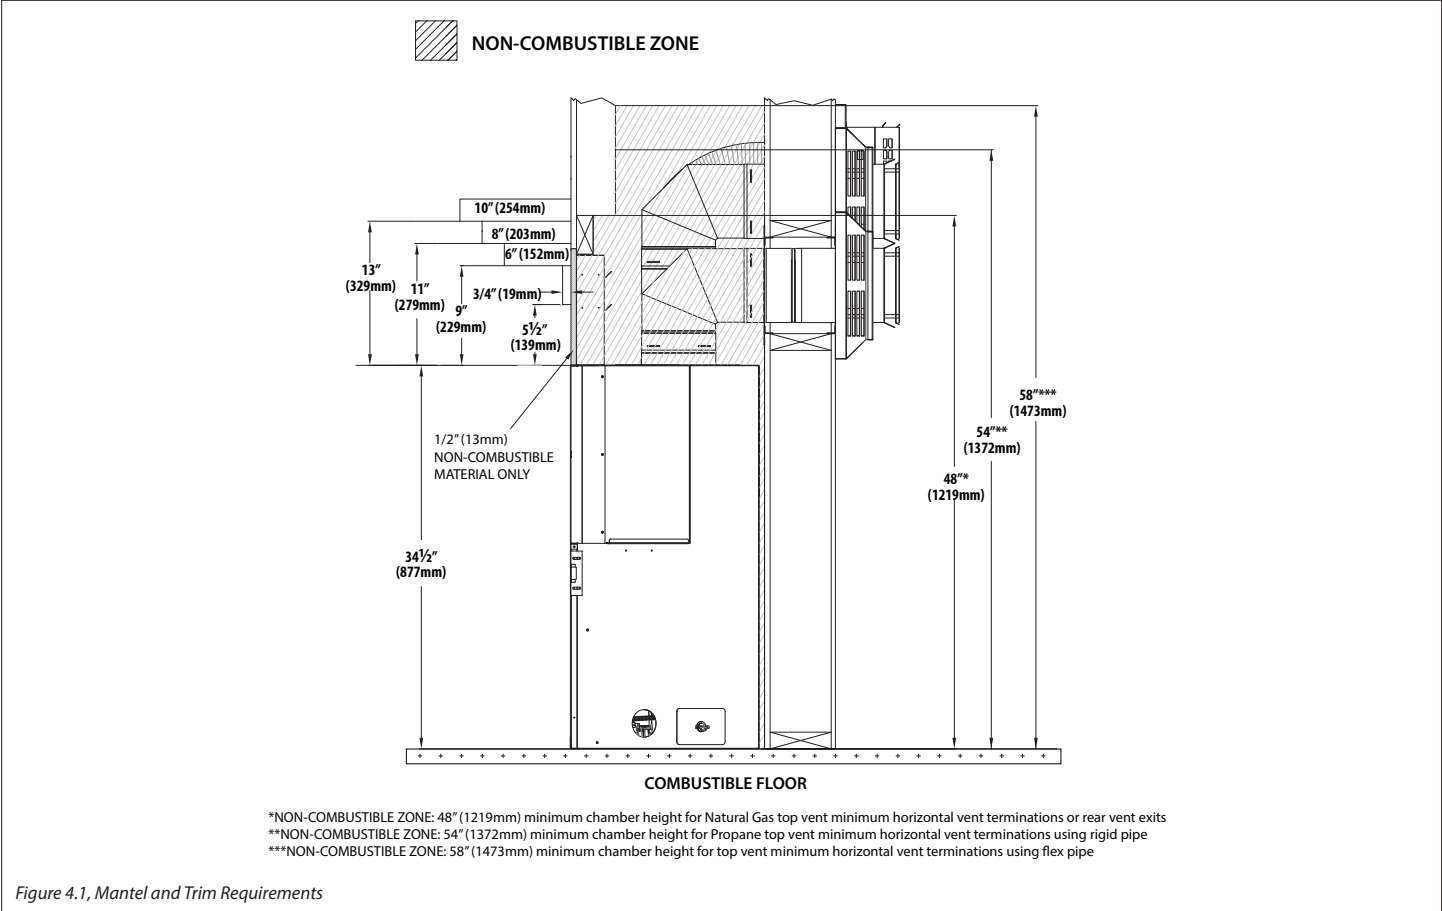

Figure 4.1, Mantel and Trim Requirements
**Combustible Mantel Projections:** As referenced in Figure 4.1 (page 19), the 3/4" (19mm) trim can start at 5-1/2" (139mm) above the top of the appliance with a 6" (152mm) mantel starting at 9" (229mm) above the top of the appliance. Mantel projections can increase 1" (25mm) of depth for every 1" (25mm) of height starting at the 6" (152mm) mantel.